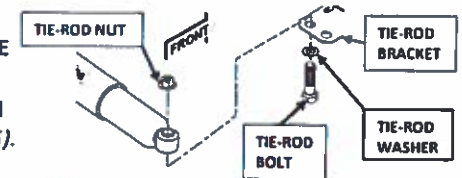

FIGURE 5. SAFE T PLUS INSTALL TO TIE-ROD BRACKET
10. Torque Tie-Rod Bolt to Tie-Rod Bracket to 80-90 foot pounds (*Figure 5*).
- With Tie-Rod Bolt threads facing up, loosely install small end of SAFE T PLUS® unit to the top of Tie-Rod Bracket with Tie-Rod Bolt, Tie-Rod Washer, and Tie-Rod Nut (Figure 5).